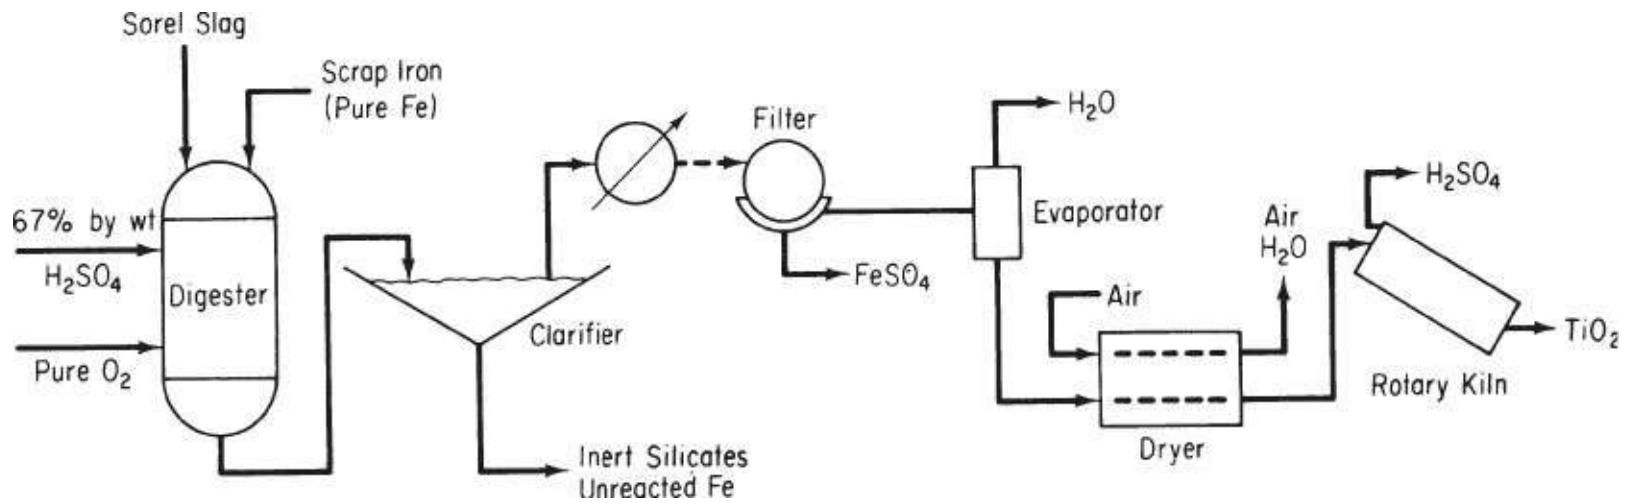

Figure P6.2.13
****6.2.13. The flowsheet shown in Figure P6.2.13 represents the process for the production of titanium dioxide (TiO_2) used by Canadian Titanium Pigments at Varennes, Quebec. Sorel slag of the following analysis: